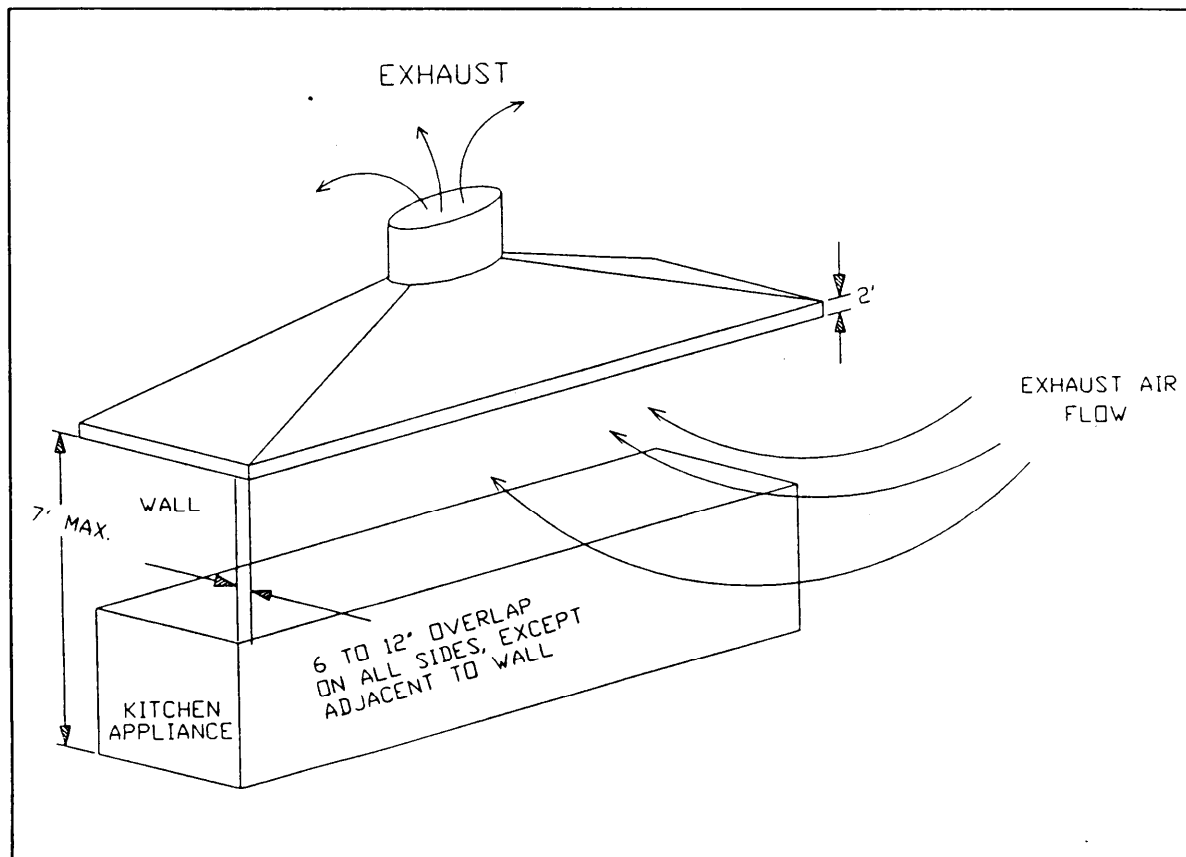

Figure 18
8.5.2 Major Ventilation System Components. Major ventilation system components include automatic cleaning unit, control switch, damper control, detergent feed system, exhaust fan motor, filter, fuses, grease collecting gutter, solenoid valve, thermostat, and time delay relay. (Refer to Figure 18.)